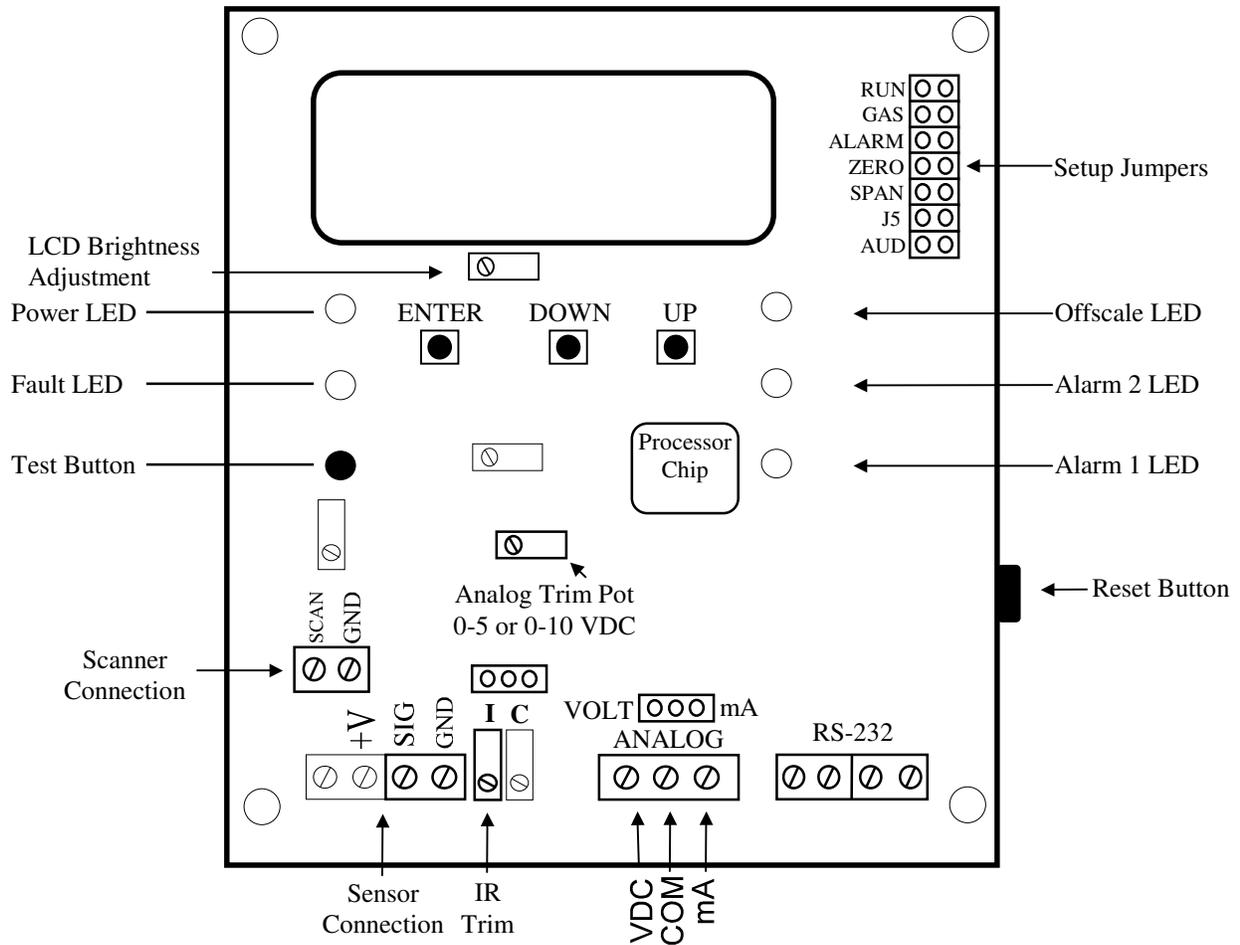

Figure 2 - Controller Upper Circuit Board
Refer to figures 2, 3, 4 and 5 before proceeding.
4. Analog Output (Optional) - Connect 18 ga. twisted shielded pair to Controller Upper Circuit Board (Figure 2) as follows:
- e. Locate Setup jumpers on Figure 2 - Controller Upper Circuit Board. Select required settings from the following:
2. Analog Output (optional) is factory set at 0 - 5 VDC or 4 - 20mA as ordered. Use Analog trim pot(Figure 2) to adjust for up to 0-10VDC range
3. LCD display adjustment changes brightness - Adjust potentiometer (Figure 2).
Refer to FIGURE 2 - Controller Upper Circuit Board before proceeding.
3. With VOM on 5 VDC scale, place VOM probe on SIG (+) and GND (-) Test points on Controller (see Figure 2).